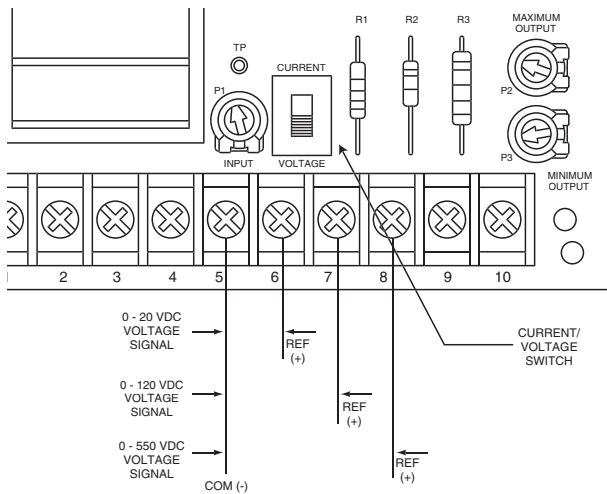

Figure 5. Connection – Following an External Voltage Signal
- (1) Set the Current/Voltage Switch to Voltage.
- (2) Connect the incoming voltage signal leads as shown in Figure 5 below.
- (3) Connect the negative lead to Terminal 5.
- (4) If the voltage signal is less than 20VDC, connect the positive lead to Terminal 6. If the voltage signal is less than 120VDC, connect the positive lead to Terminal 7. If the voltage signal is greater than 120VDC, connect the positive lead to Terminal 8.